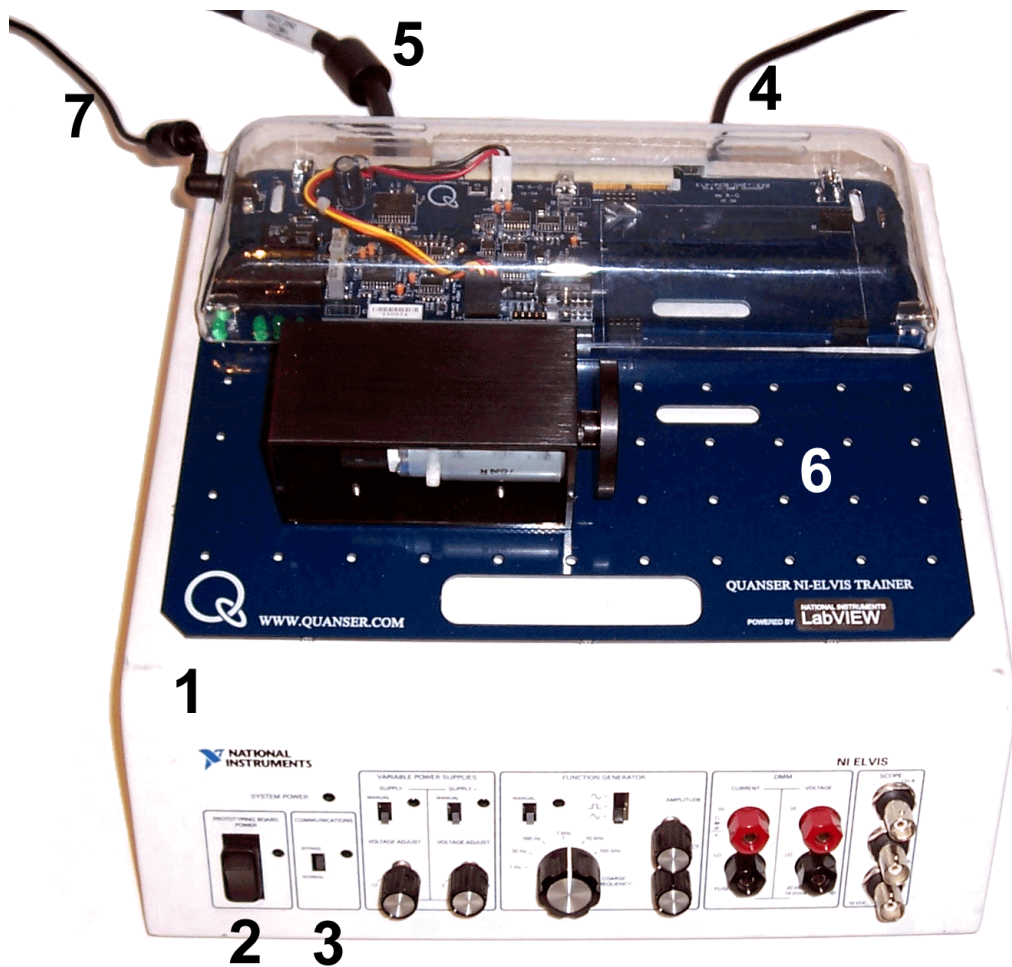

Figure 6.9: ELVIS and QNET setup components
The procedure to install a Quanser Engineering Trainer (QNET) module on the traditional NI ELVIS (ELVIS I) is detailed in this section. An example of an installed system using the QNET DC Motor Control Trainer (DCMCT) module is pictured in Figure 6.9. Some of the components used in the installation procedure are located and marked by an ID number in Figure 6.9, and described in Table 6.
3. Connect the NI ELVIS power cable shown as ID #4 in Figure 6.9.
4. Connect the QNET power cable labeled ID #7 in Figure 6.9.